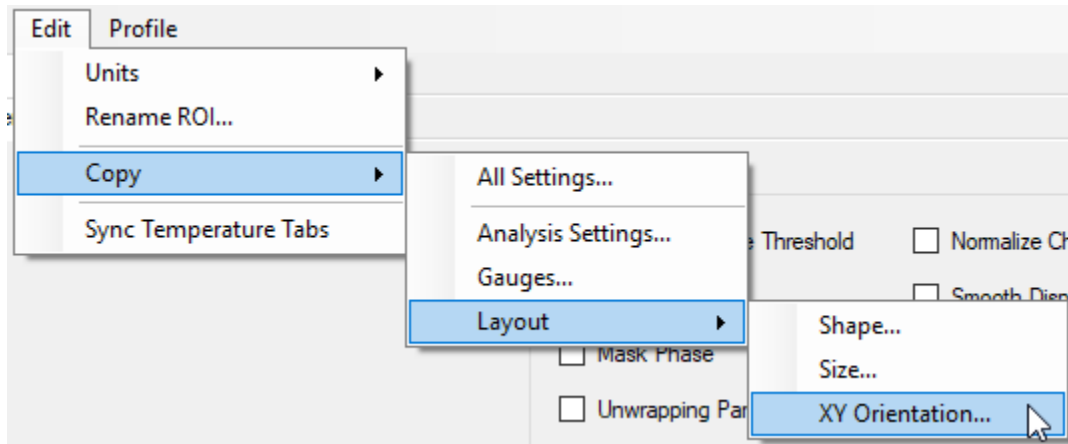

Figure 2.12 Edit Recipe Dialog - Edit Menu
The Edit menu is shown in **Figure 2.12**. Its options are detailed below.
- **Copy** – Copies chosen settings between all ROIs. Available settings that can be copied are shown in **Figure 2.12**.